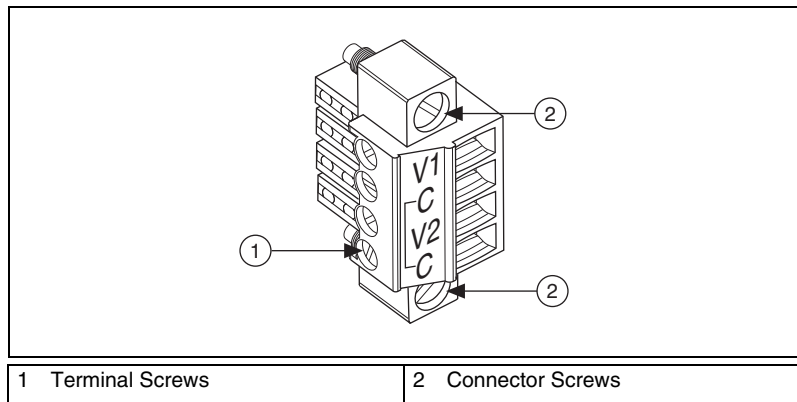

Figure 5. COMBICON Power Connector
2. Connect the positive lead of the power supply to the V1 or V2 terminal of the COMBICON power connector shipped with the controller, and tighten the terminal screw. Figure 5 shows the terminal screws, which secure the wires in the screw terminals, and the connector screws, which secure the power connector on the controller.